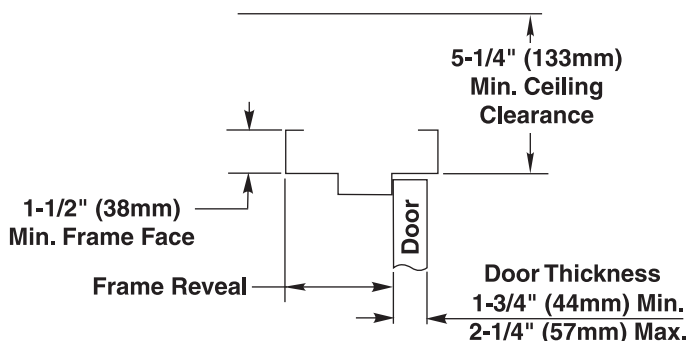

Figure 13
Become familiar with operator components and fasteners. It is recommended that components remain in box until installed. Verify there is minimum ceiling clearance for operator installation before proceeding. (Figure 13)
1. Verify frame reveal width is 2-5/8" - 6-3/4" (67-171mm). (Figure 13)